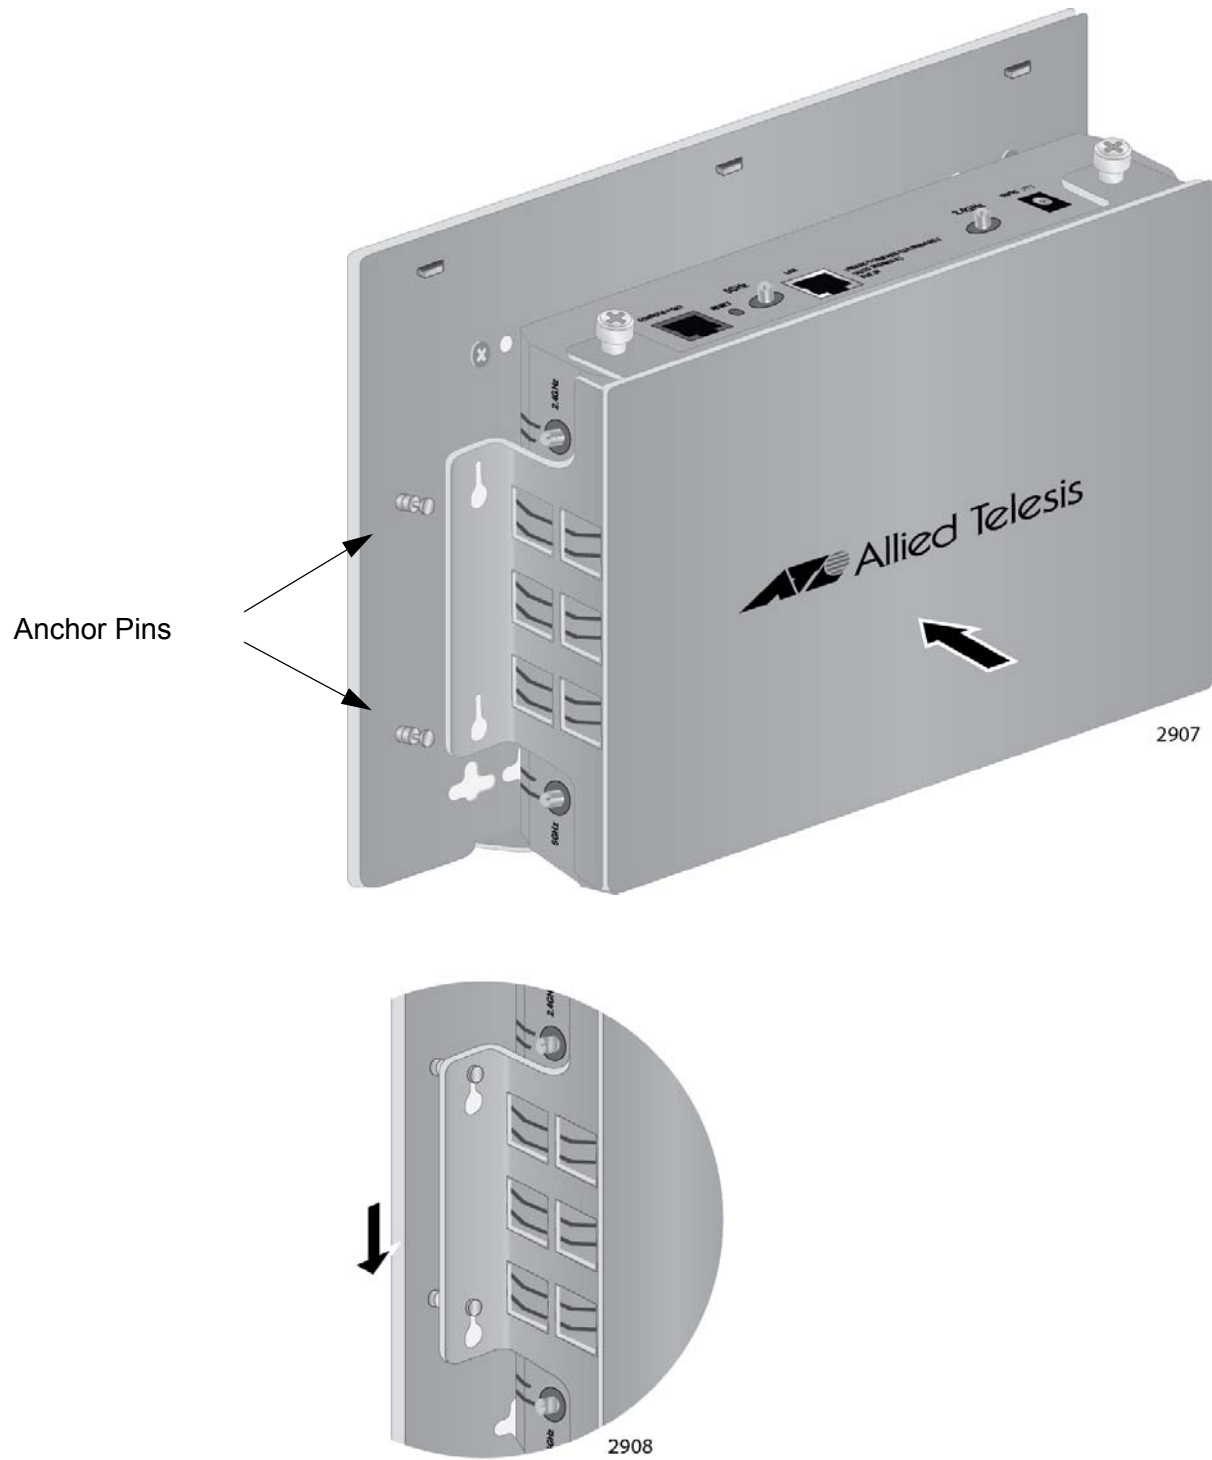

Figure 22. Attaching the Top Panel and Access Point to the Bottom Panel
4. Place the top panel and access point over the bottom panel on the wall or ceiling such that the two anchor pins on the bottom panel fit into the holes on the top panel. Then slide the top panel to lock the pins into the holes. Refer to Figure 22 on page 44.